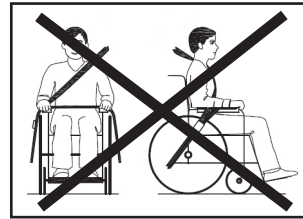

Figure 5
- The belt must not lie against wheelchair components (such as armrests or wheels), which means that the belt no longer fully supports the user's body (see Figure 5).